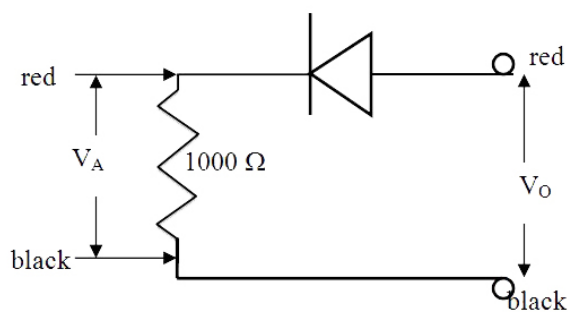

Figure 1: Half Wave Rectifier Circuit
A diode is an electronic device which allows current to flow in only one direction. In the Rectifier Circuit shown in Figure 1, V_o is a 60 Hz AC voltage with an amplitude of 10 Volts. When the red input is positive with respect to the black input, current flows to the left through the diode and the current passing through the diode then produces a voltage drop across the resistor (V_A) as it passes through the resistor. When the red input becomes negative, the diode prevents the flow of current and the voltage across the resistor drops to zero. This changes the sinusoidal input voltage into a voltage that is always positive, but is not constant.
1. Setup the circuit shown in Figures 1 & 3 using the $1000\ \Omega$ (brown-black-red-gold) resistor between the spring clips. The gray band (cathode end) on the diode should be to the left away from the positive (red) terminal.